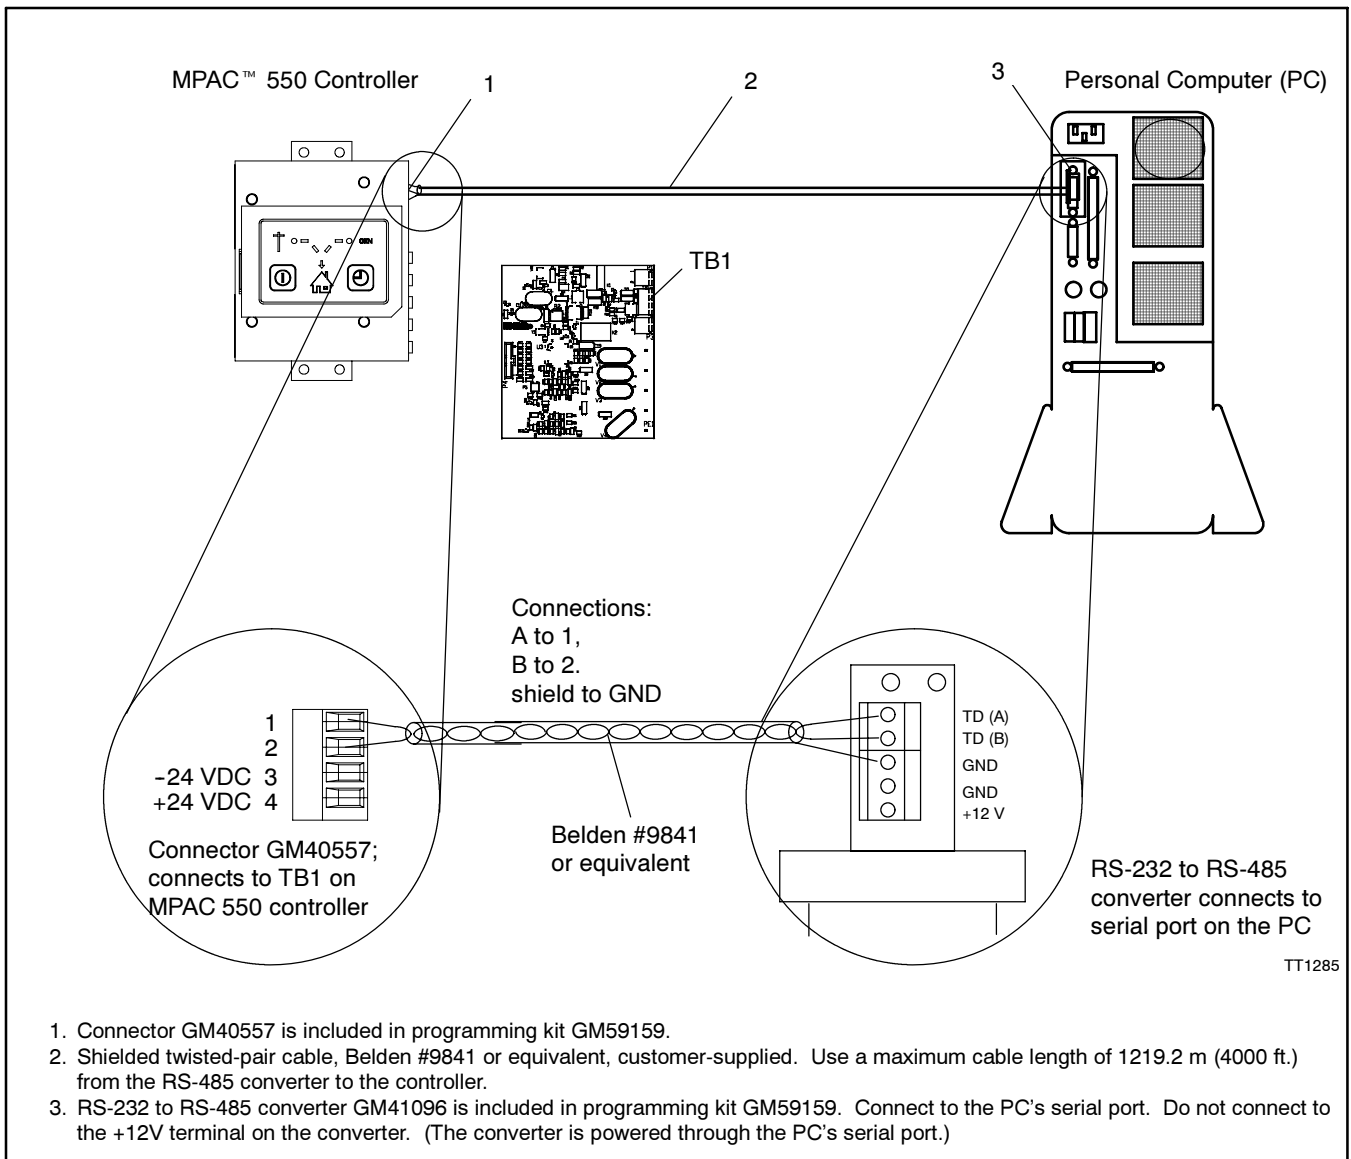

Figure 26 MPAC™ 550-to-Personal Computer Connection
6. The program will prompt you to reset the target controller. Reset the transfer switch controller by applying 24VDC to terminals 3 and 4 of TB1. See Figure 26.